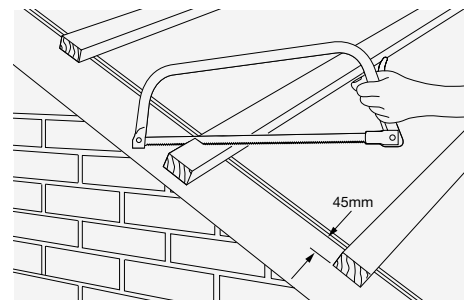

Fig. 1 – Position top course tiling battens
- 2 Saw tiling battens off square to overhang bargeboard or brickwork by 45mm and nail within a maximum of 500mm from ends (Fig. 1).